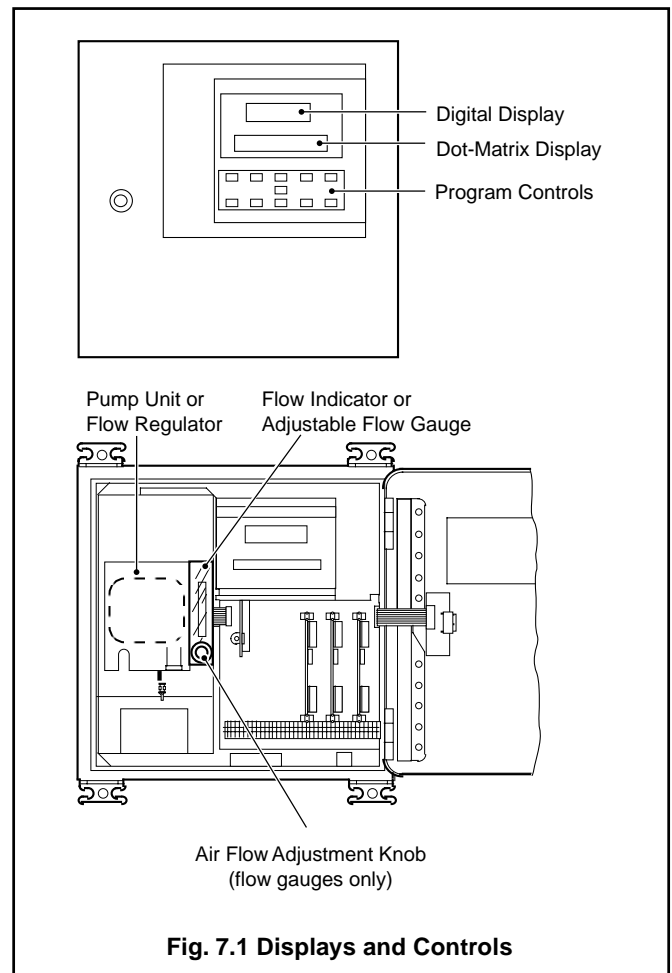

Fig. 7.1 Displays and Controls
7.1 Program Controls – Fig. 7.1
The program controls comprise eleven tactile membrane switches located on the front of the instrument. Four additional switches which are not used on basic or advanced analyzers have been omitted from Fig. 7.1.
7.2 Reference Air Supply – Fig. 7.1
7.3 Displays – Fig. 7.1
The reference air flow to the probe may require adjustment depending on the probe type and the pump/regulator configuration – see Table 8.2. For flow gauge location refer to Fig. 7.1.